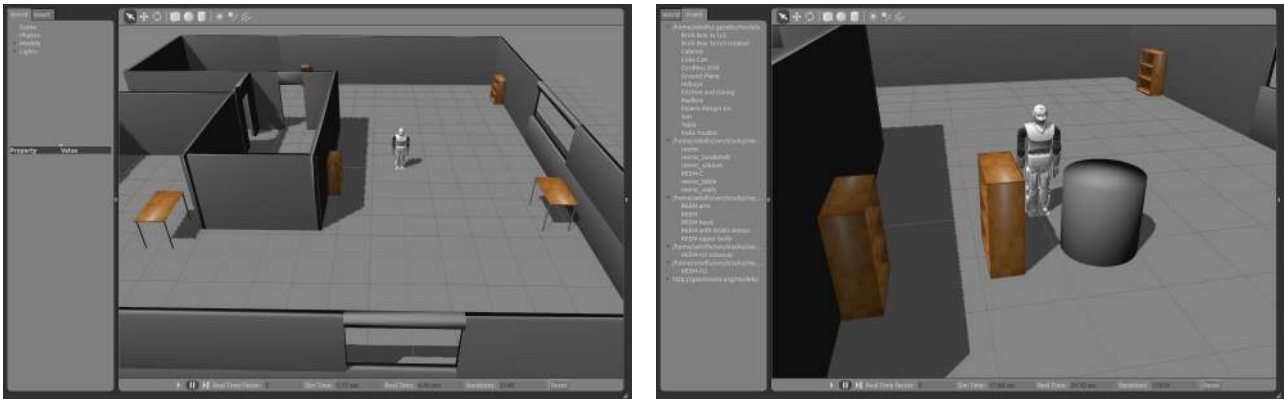

Figure 108: Gazebo simulation of REEM-C in an indoor world (left). The simulation after adding a cylinder and a bookshelf (right).
1. Open a terminal and launch a Gazebo simulation of REEM-C in an indoor world (Figure 108, left).
The simulation world with the cylinder and the bookshelf is shown in Figure 108, right.